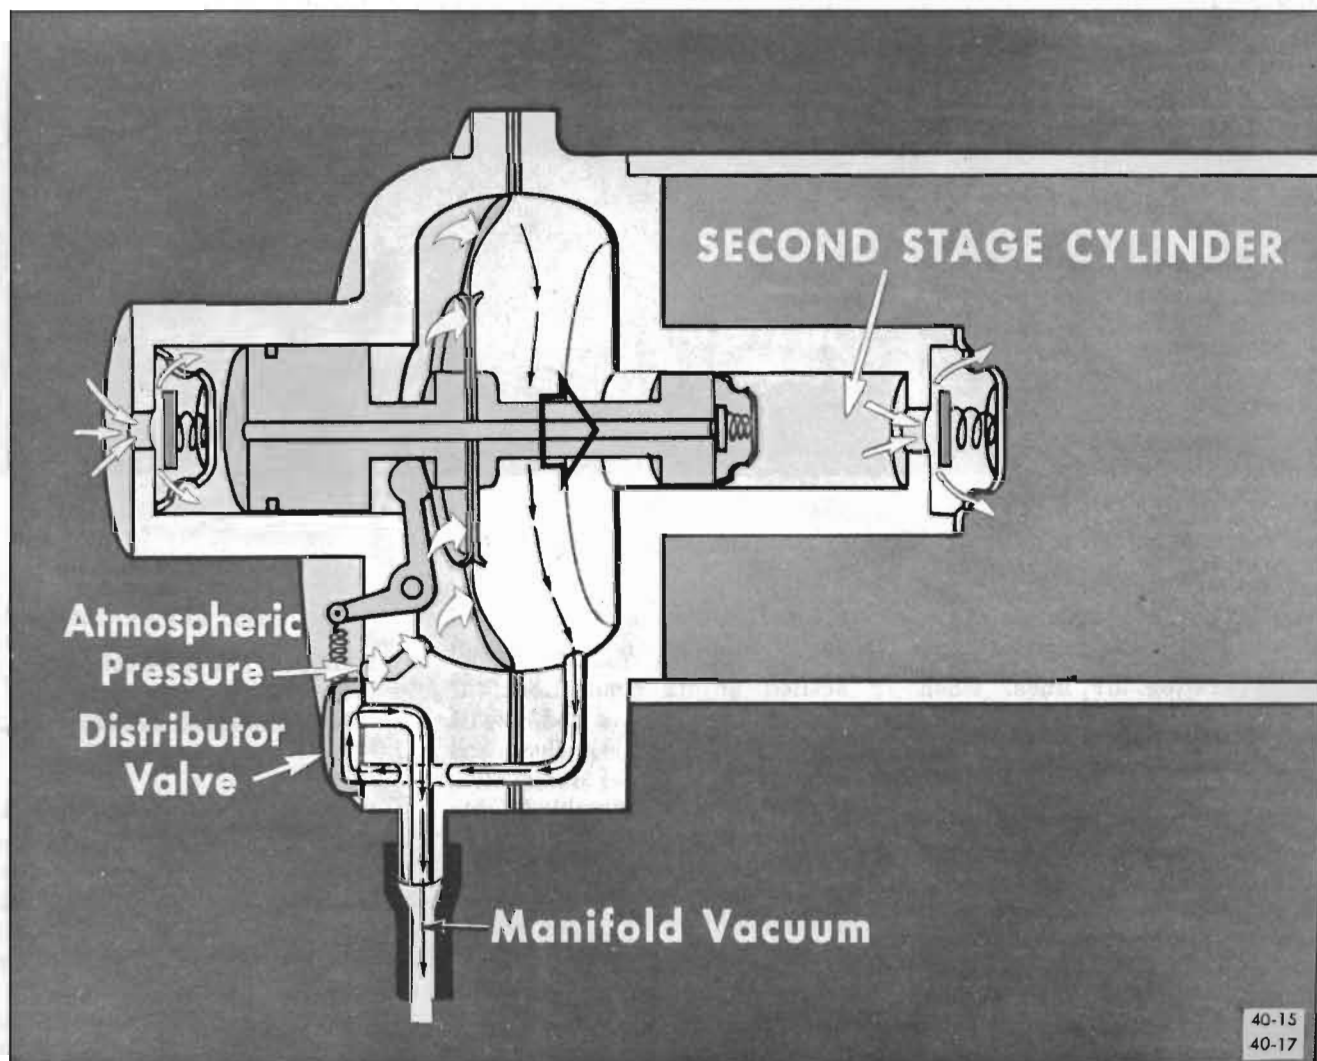
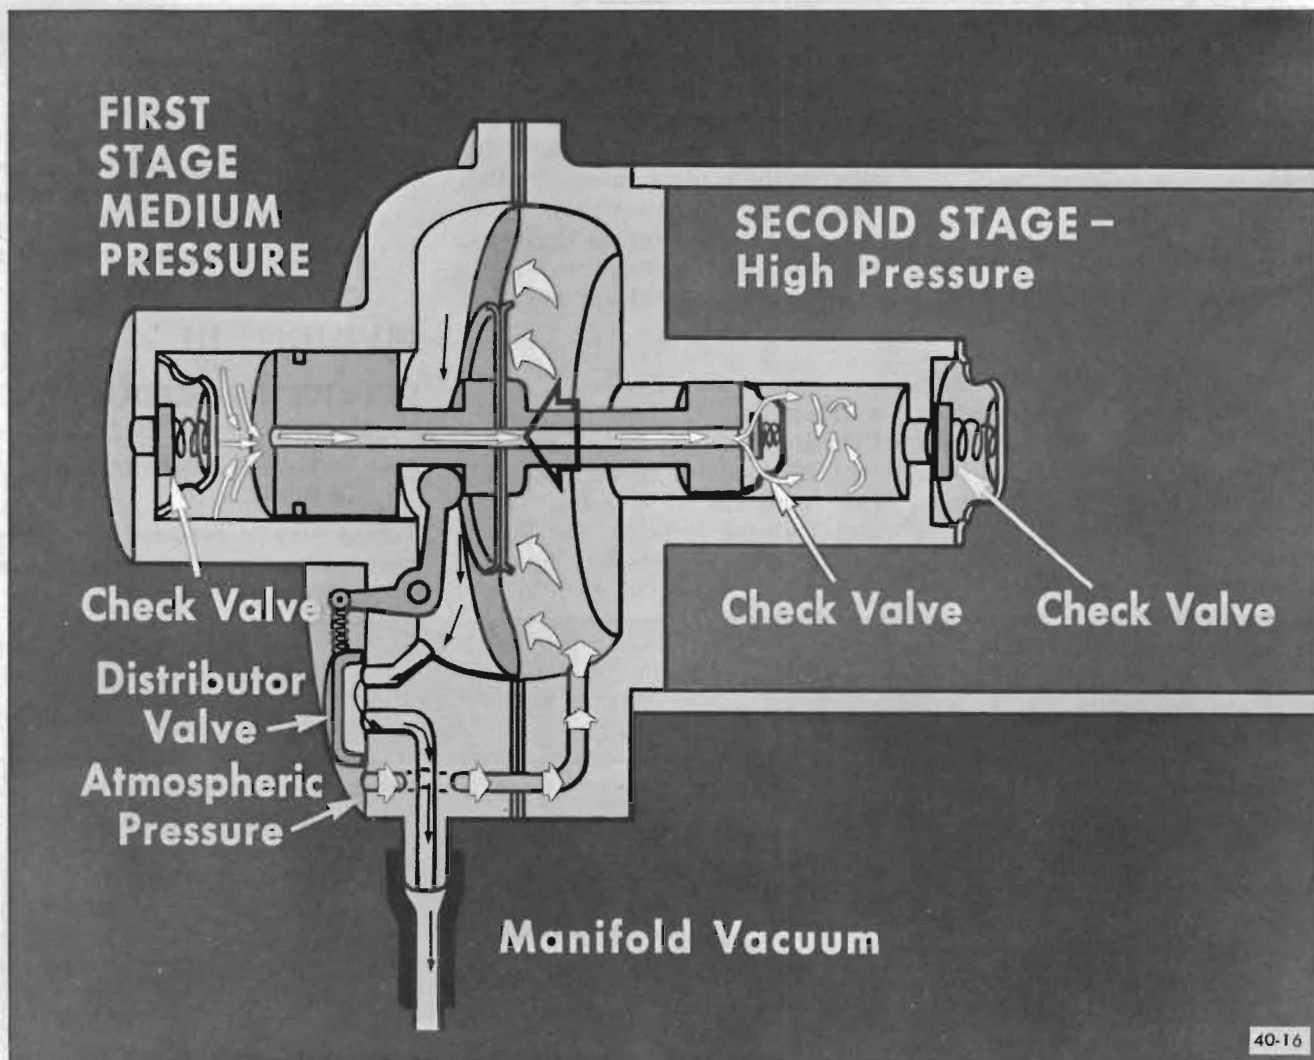
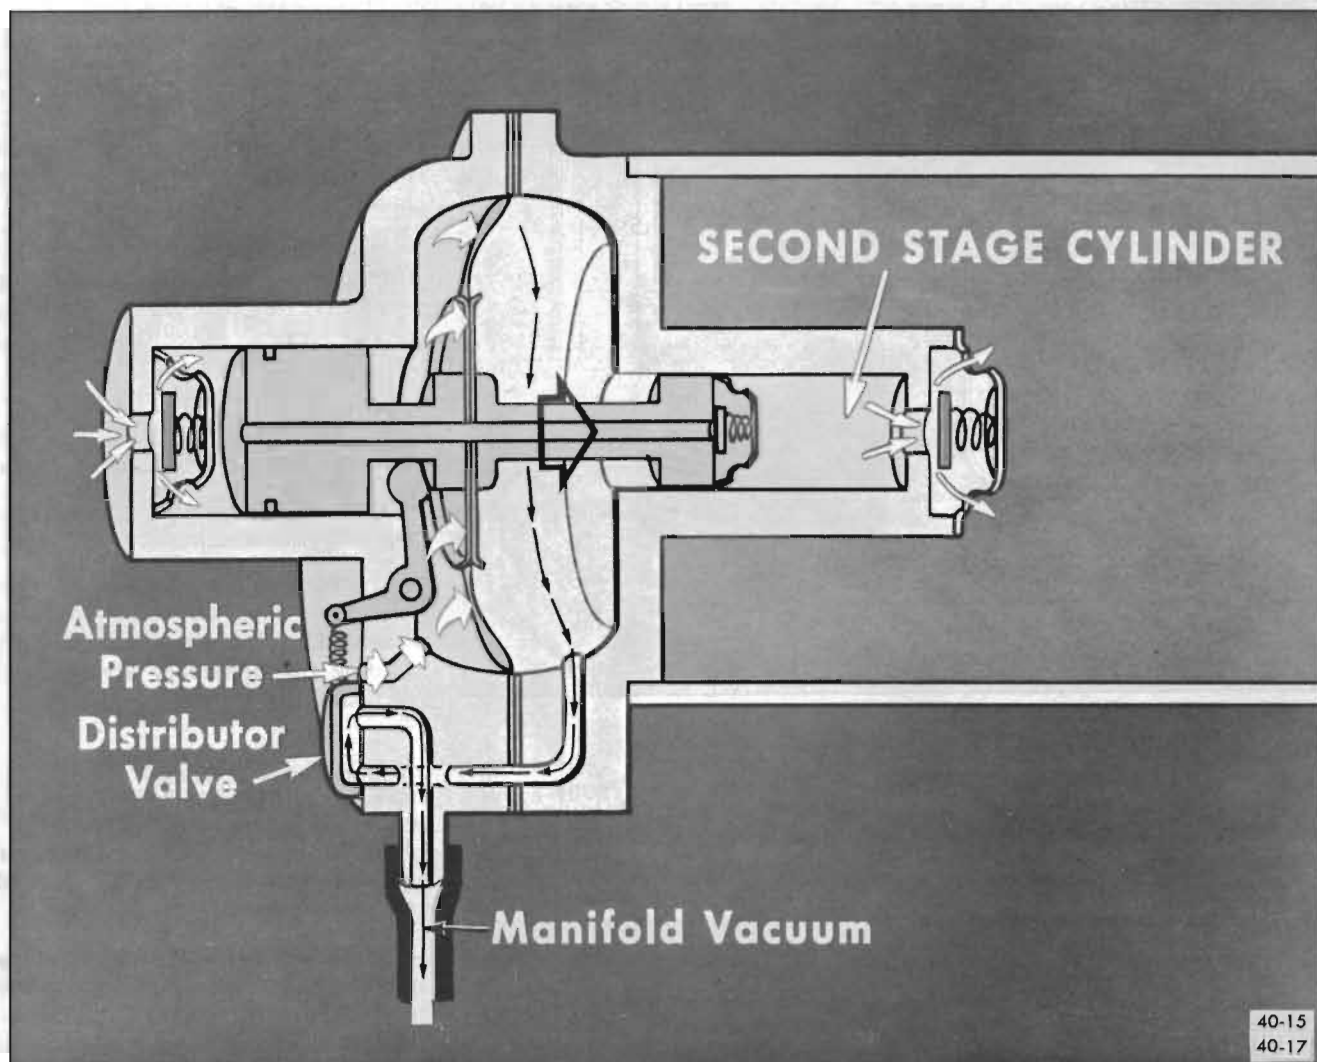

Figure 40-15—First Stage Intake Stroke
Figure 40-16—First Stage Compression Stroke
Figure 40-17—Second Stage Compression Stroke
a. The compressor is a two-stage, vacuum actuated type, requiring no lubrication. Vacuum supply is taken from engine carburetor base. See Figure 40-14. High pressure air is supplied to the reservoir tank by the second stage of the two-stage compressor. The first stage intake stroke draws air at atmospheric pressure through a oneway check valve located in the end of the first stage housing under the first stage housing cover. See Figure 40-15. On the first stage compression stroke, the intake valve is closed and the oneway check valve in the second stage end of the piston is opened. This allows the air from the first stage cylinder to flow through the hollow piston into the second stage cylinder for high pressure compression. See Figure 40-16. The second stage compression stroke closes the check valve in the piston and opens the check valve in the end of the second stage housing. See Figure 40-17.
The intake and compression strokes are controlled by a sliding distributor valve that is actuated through an arm that is tripped by the piston as it nears the end of each stroke. Each time the arm actuates the distributor valve, a different set of holes are covered in the first stage housing. The distributor valve controls the flow of intake manifold vacuum and air under atmospheric pressure, alternately to opposite sides of the compressor diaphragm. See Figures 40-16 and 40-17.